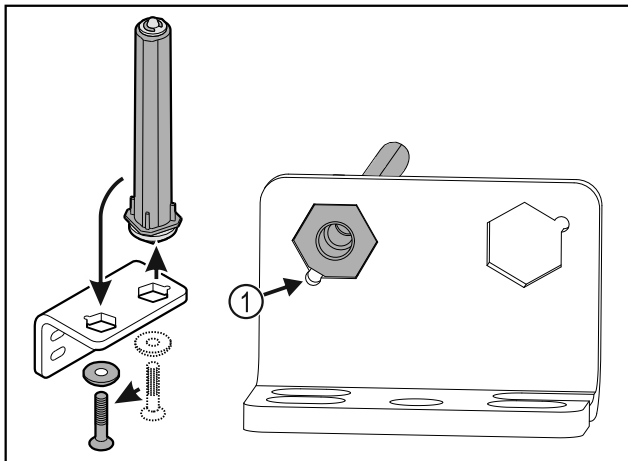

Fig. 15
- ▶ Make sure the pin chamfer Fig. 15 (1) faces the round hole when you put it in.